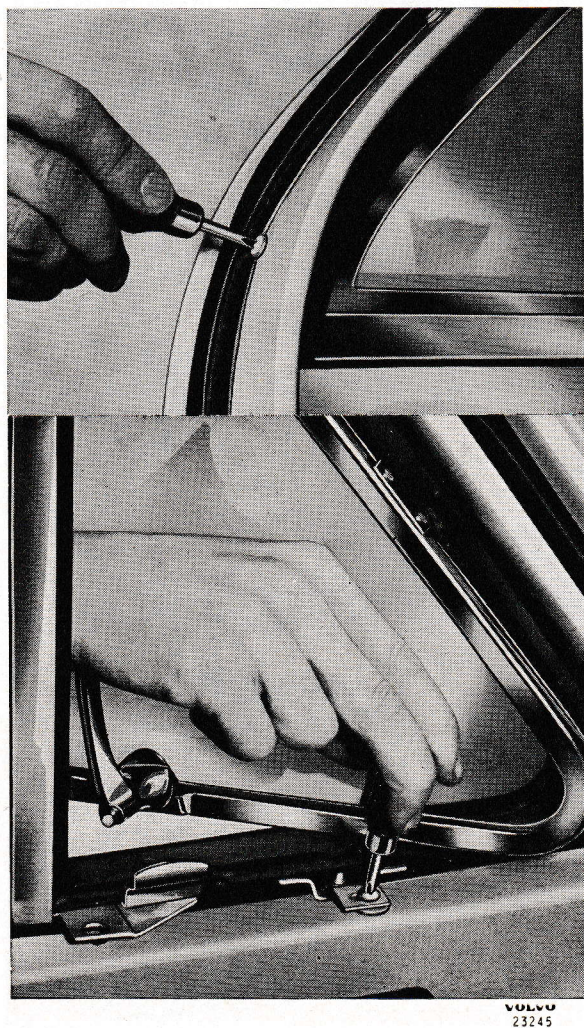

Fig. 21. Removing the ventilation window.
2. Unscrew the five screws which hold the window to the door and door arch, see Fig. 21.